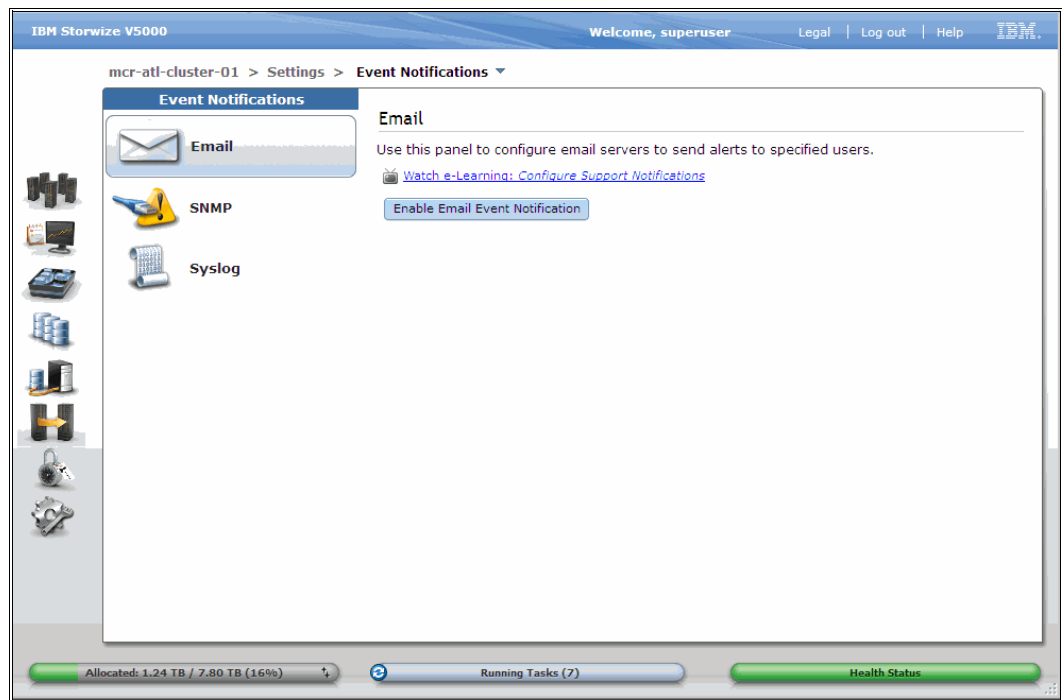

Figure 2-50 Selecting Event Notification
2. Click **Email** → **Enable Email Event Notification**, as shown in Figure 2-50.